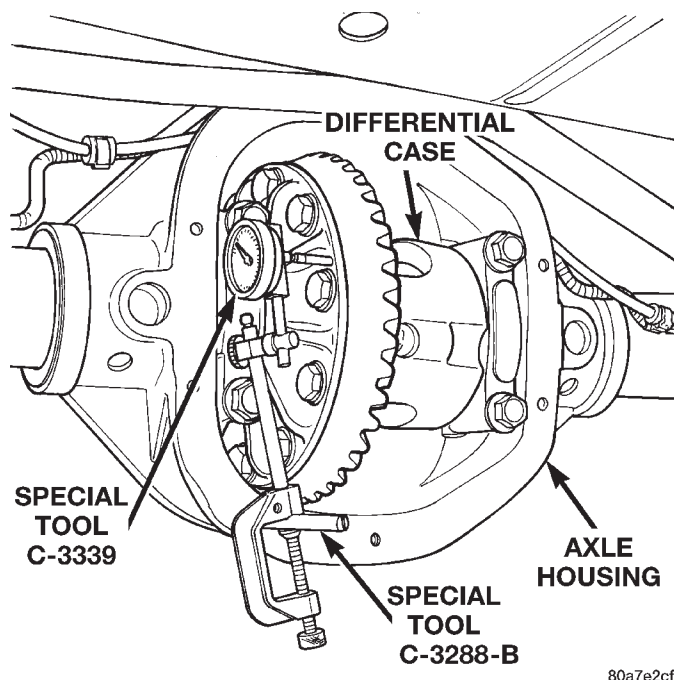

Fig. 65 Differential Side play Measurement
(8) Thread guide stud C-3288-B into rear cover bolt hole below ring gear (Fig. 65).
(9) Attach a dial indicator C-3339 to guide stud. Position the dial indicator plunger on a flat surface between the ring gear bolt heads (Fig. 65).